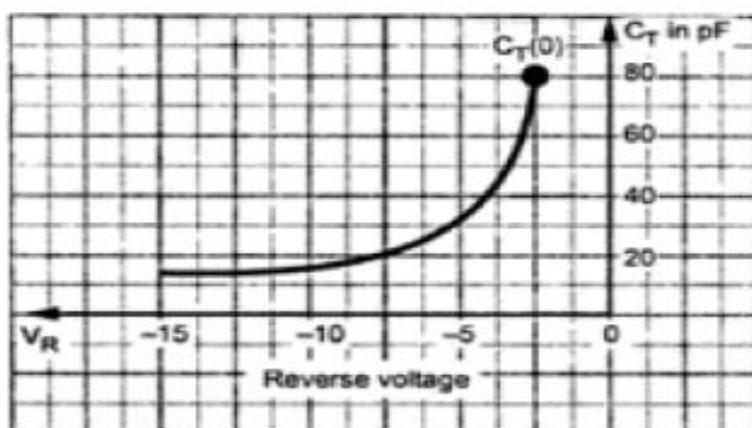

Fig. 5.13 Variation of  $C_T$  versus Reverse voltage
- As the reverse bias applied to the diode increases, the width of the depletion region (W) increases. Thus the transition capacitance  $C_T$  decreases.
- In short, the capacitance can be controlled by the applied voltage. The variation of  $C_T$  with respect to the applied reverse bias voltage is shown in the Fig. 5.13.